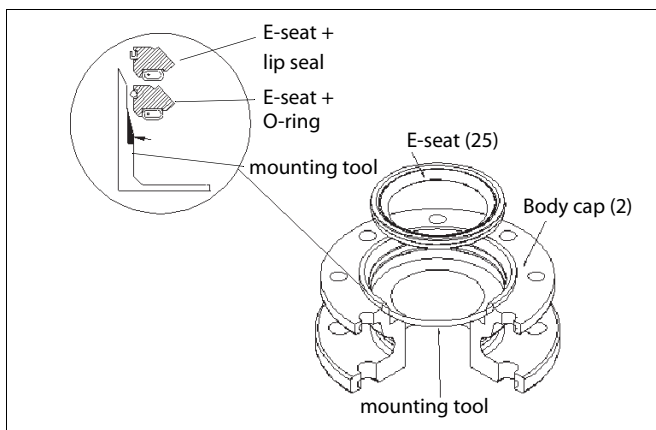

Fig. 24 Mounting the E-seat
- ❑ **E-seat:** Place the back seal (113) in the groove of the seat outer circle (25), Fig. 24. Place the spring (62) in the body. Place the seat in position with a special tool which is supplied with instructions, see Figure 24 and Section 8 'Tools'.